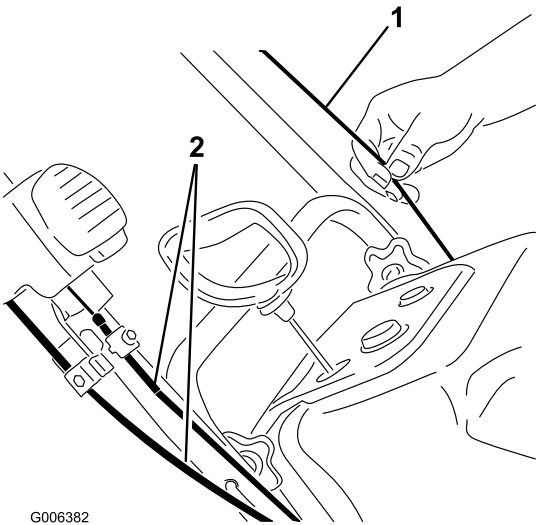

Figure 6
**Important:** Ensure that you do not pinch or kink the control cable or the Quick Shoot™ cables (Figure 6).